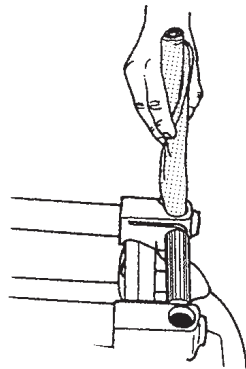

Figure B-33
- a. Do not wax the trunnions (148, 149) on the worktable. When you wax and buff the quill (59) do not leave any wax in the racks. If you do, the wax will mix with sawdust and impede the movement of parts.
16. After you apply wax to the mounting holes in the head rest (left) and base arm (right), wrap a rag around a scrap of wood and buff out the wax thoroughly. See Figure B-33.